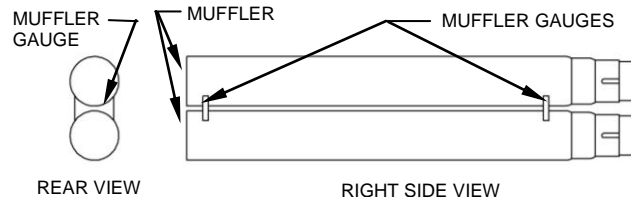

FIGURE 4
16. Locate the two cardboard muffler gauges and place them between the mufflers to help hold the mufflers parallel. (Refer to Figure 4). Make sure the mufflers are even on the exit end and the mounting bracket is in the middle of the muffler brackets and finger tighten the bolts.